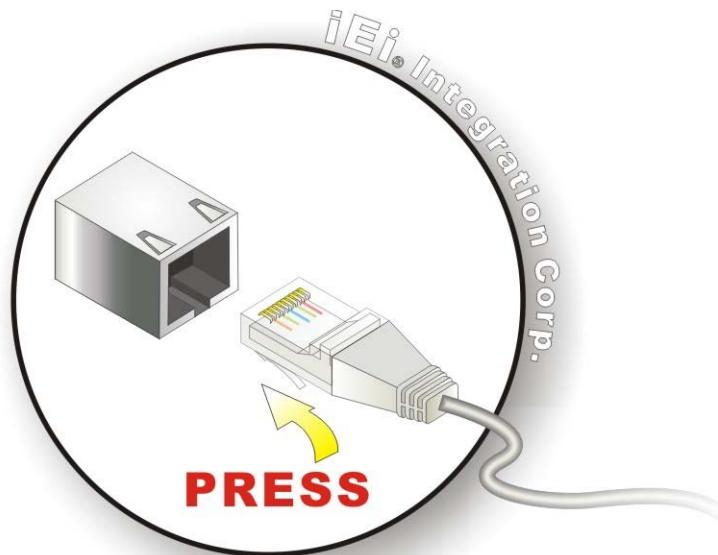

Figure 4-10: LAN Connection
Step 2: Align the connectors. Align the RJ-45 connector on the LAN cable with one of the RJ-45 connectors on the KINO-DQM871. See Figure 4-10.